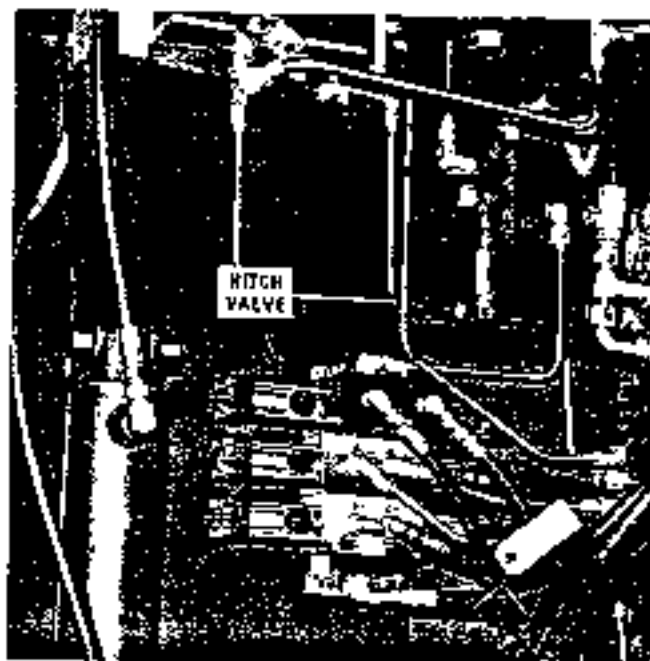

FIGURE L-1 - Hitch Valve
OPERATION (Refer to Figure L-1)
3. Install pressure inlet "T" and lines to hitch valve. (Refer to Figure L-1).